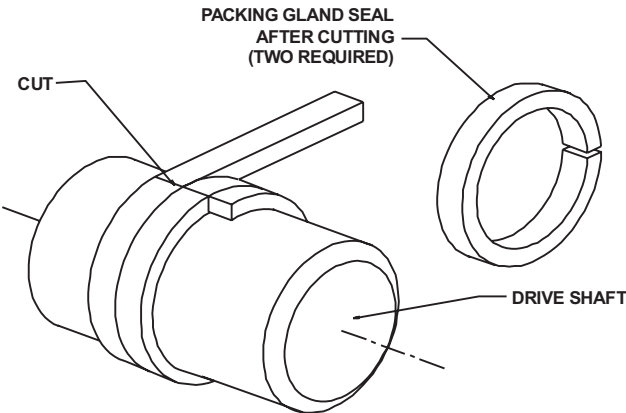

Figure 1-6
1.3.4 Wrap the packing gland material (supplied) around the seal diameter of the drive shaft and cut the packing to length. Two (2) pieces are required. See Figure 1-6.